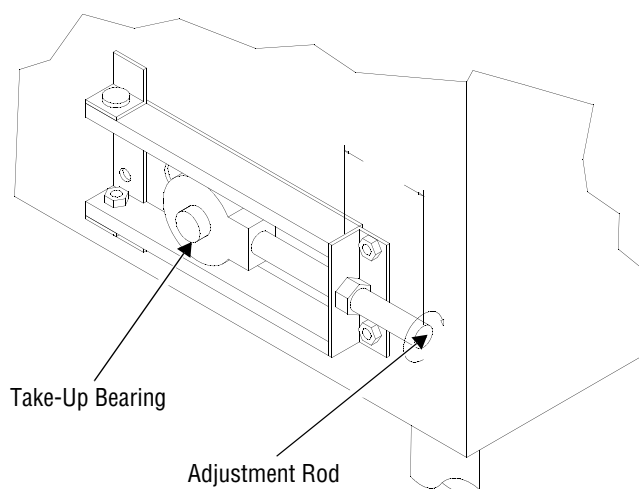

Figure 5-7. Adjust Dispenser Take-Up Bearings
3. Adjust take-up bearings on dispenser belt, as needed, for tension and proper tracking. Turn clockwise to tighten, counter-clockwise to loosen (see Figure 5-7).